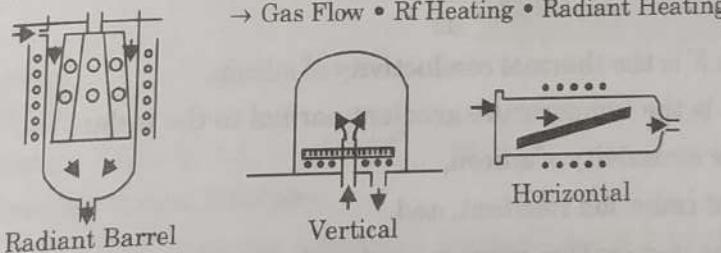

Fig. 2.6.1. Schematic of three common reactors.
17. Three basic reactor configurations are shown in Fig. 2.6.1.